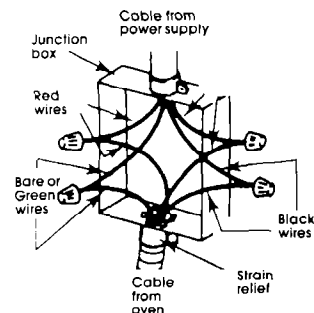

Figure 2
3. Connect the two black wires, then the two red wires. See Figure 2.